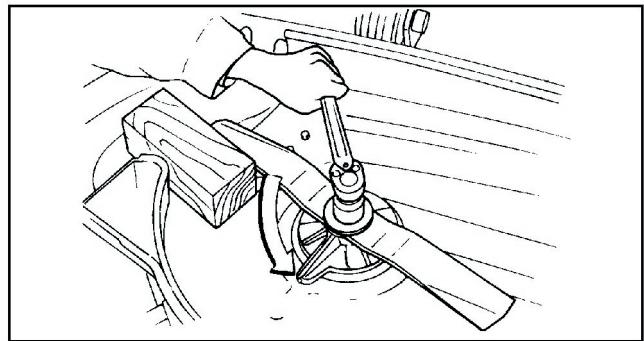

Figure 1
2. Remove all mower blades and save mounting hardware. This hardware will be used again. To prohibit blades from turning while loosening bolts, it will be necessary to wedge a block of wood between the blade and mower housing. (See Figure 1.)
286307700_Fig1